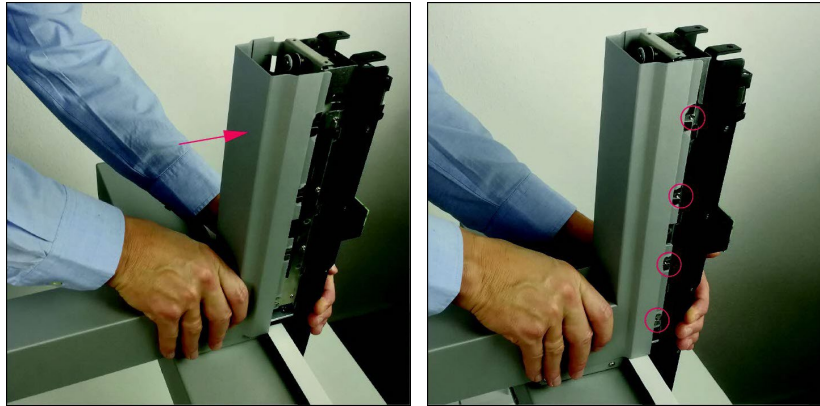

Figure 91: Rear Tower Assembly 2
3. Gently push the L-shaped rear tower cover towards the front until the screw slots are neatly docked around the screws. The cover cannot be moved any further in this position and stands vertically. See Figure 91.